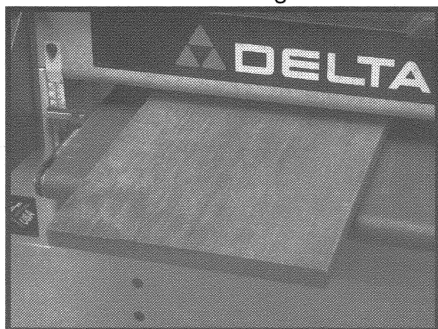

Fig. 22
1. Run a piece of lumber through the drum sander (Fig. 22) to finish one side of the board.